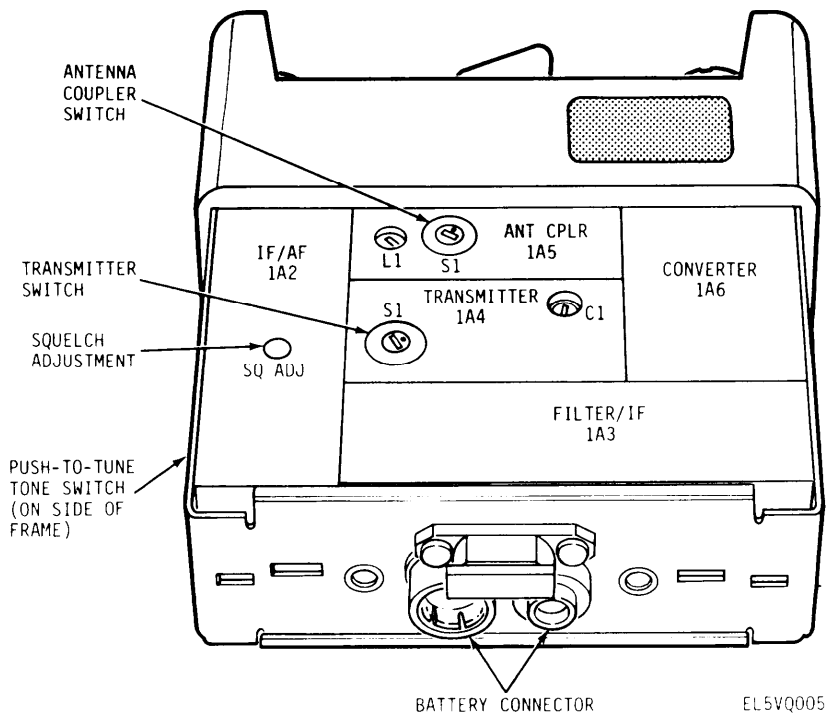

Figure 2-1. Radio set component locations, front view.
- (3) Set the transmitter switch and antenna coupler switch (fig. 2-1) with the enclosed alignment tool to the same position as switch A on the synthesizer module.
- (4) Connect battery.
*b. Alignment.* After the frequency of the radio set has been changed, perform the following procedures for radio set alignment (fig. 2-1):
- (1) Install antenna (either short or long).
- (2) Set CHAN switch to 5.
- (3) Preset C1 on the transmitter module fully clockwise (use enclosed alignment tool of JFD 5284).
- (4) Set PWR OFF/ON/SQUELCH DIS switch to ON.
- (5) Press push-to-tune switch (on side of radio set) and adjust VOL control for comfortable level.
- (6) Using the alignment tool, adjust C1 on the transmitter module counterclockwise for the lowest tone.
- (7) Release push-to-tune switch.
- (8) The antenna coupler adjustment (L1) must be made using Test Set TS-3354/PRC-68 (test set),